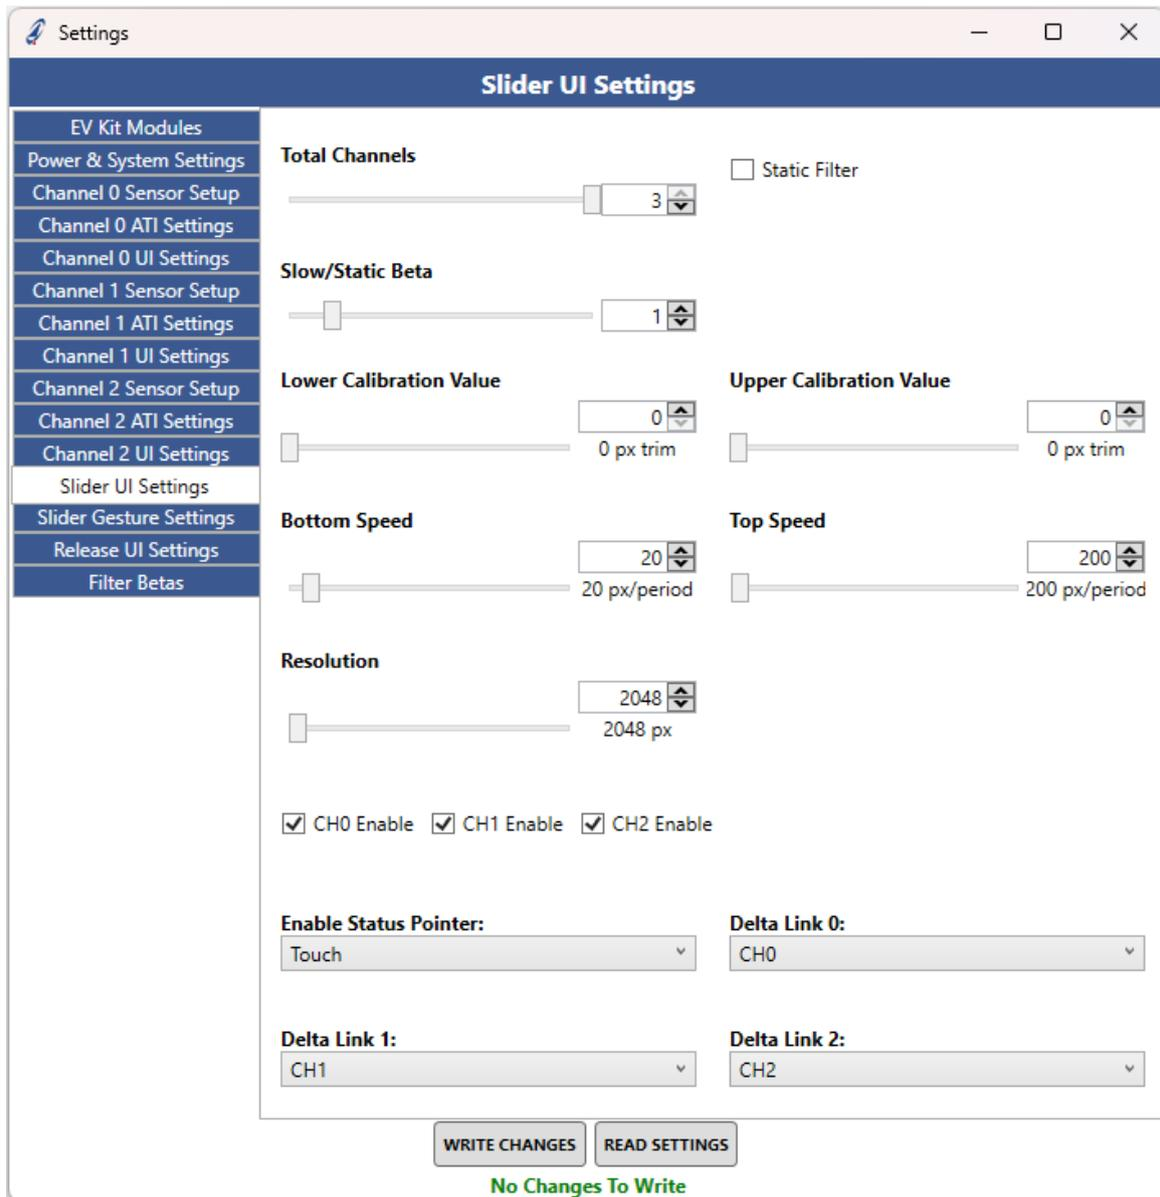

Figure 4.5: Slider UI Settings
The “Slider User Interface (UI) Settings” tab can be used to configure slider settings such as resolution, calibration values, speed values, static beta values, slider channels, status pointer and delta link settings as shown in Figure 4.5.